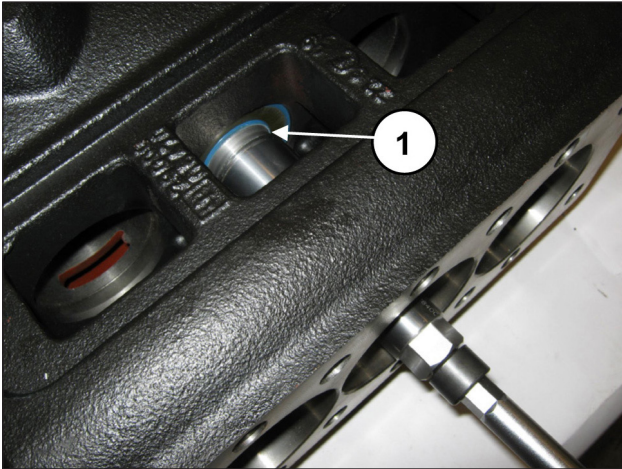
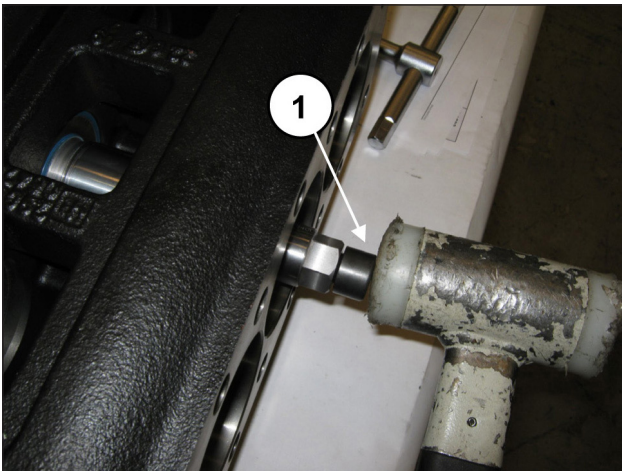

Fig. 34
Fig. 35
Insert the tool between the rod and the seal ring (pos. ①, Fig. 34) and, with the extractor hammer, complete insertion of the tapered section inside the seal ring (pos. ①, Fig. 35).